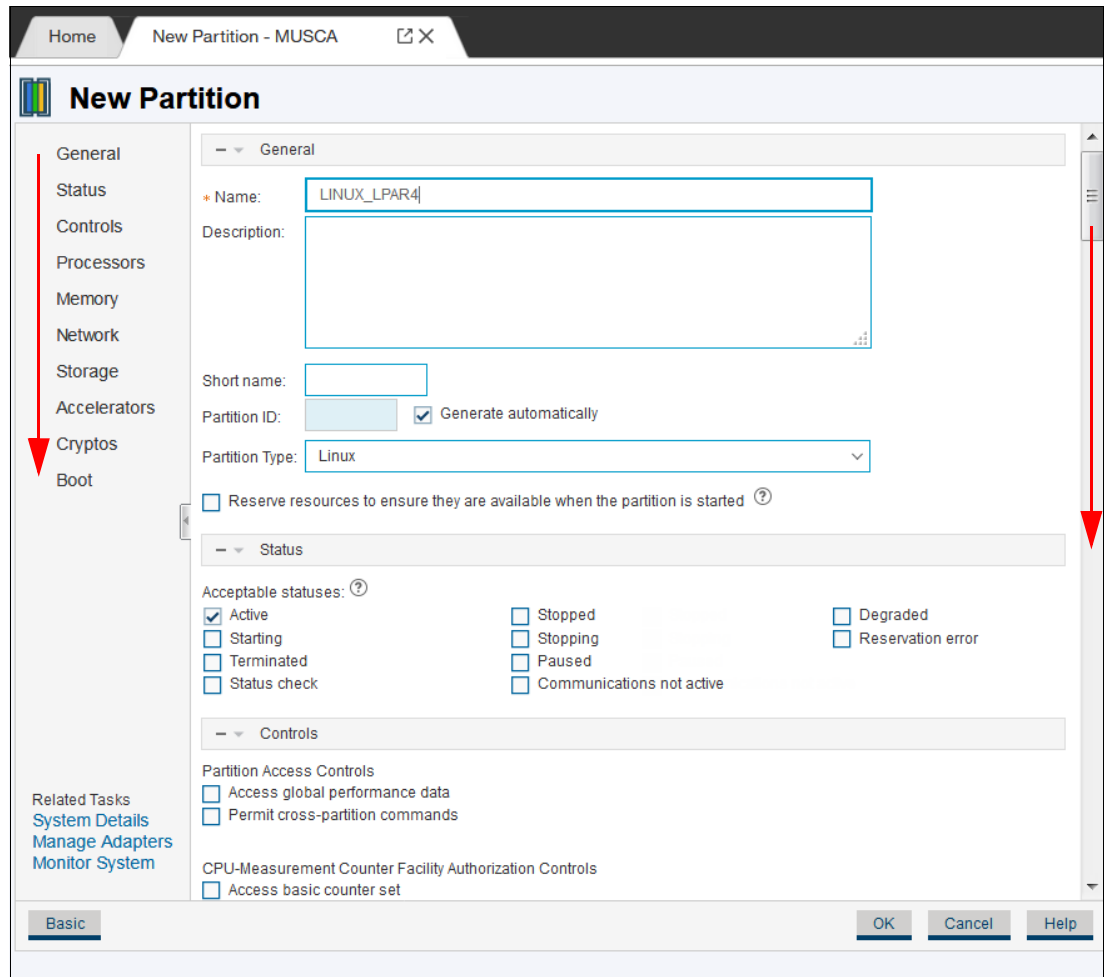

Figure 16-59 New Partition - Advanced menu
3. In the Advanced menu (see Figure 16-59) window, scroll down to configure all resources.